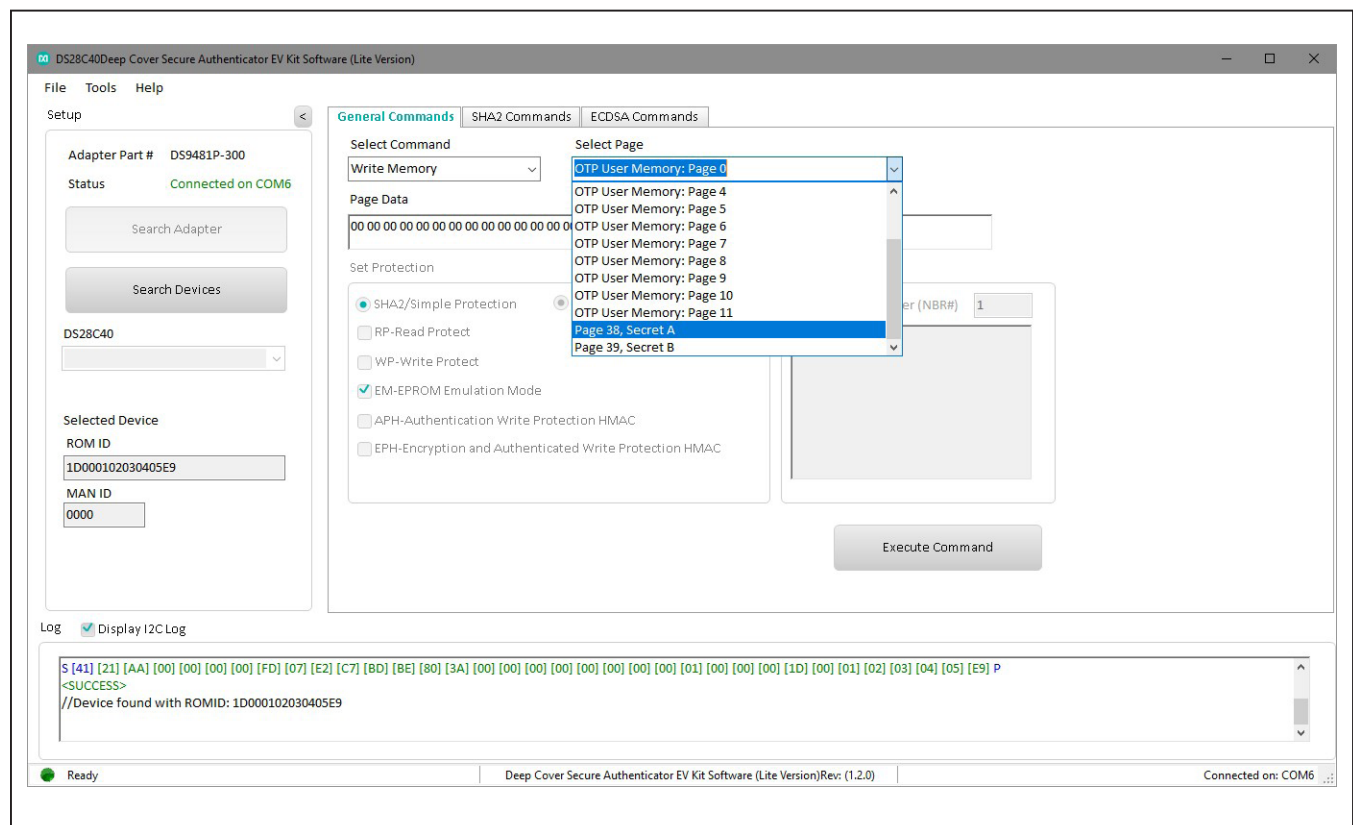

Figure 17. Selecting SHA2 Command
- 2) Select the Secret A or B from **Select Page** drop-down menu for writing (Figure 17).